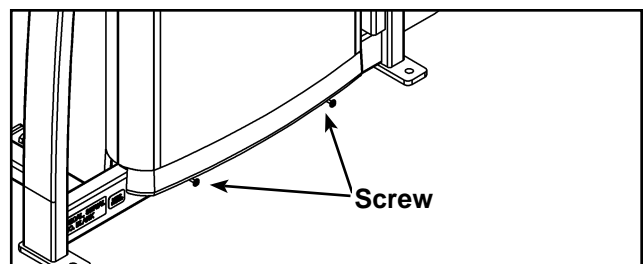

Figure 16
- A. Carefully place shroud back into position on the two bottom screws. See Figure 16.